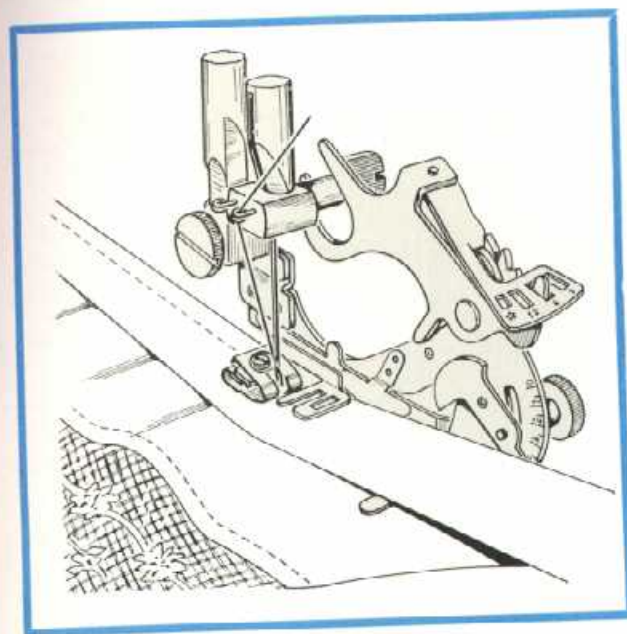

Fig. 72
- 4) Lower presser bar and sew. Fig. 72 shows the procedure described above.